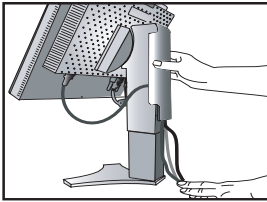

Figure 8
7. Slide the Cable Cover back into its correct position (Figure 8). Connect the power cord to power outlet.